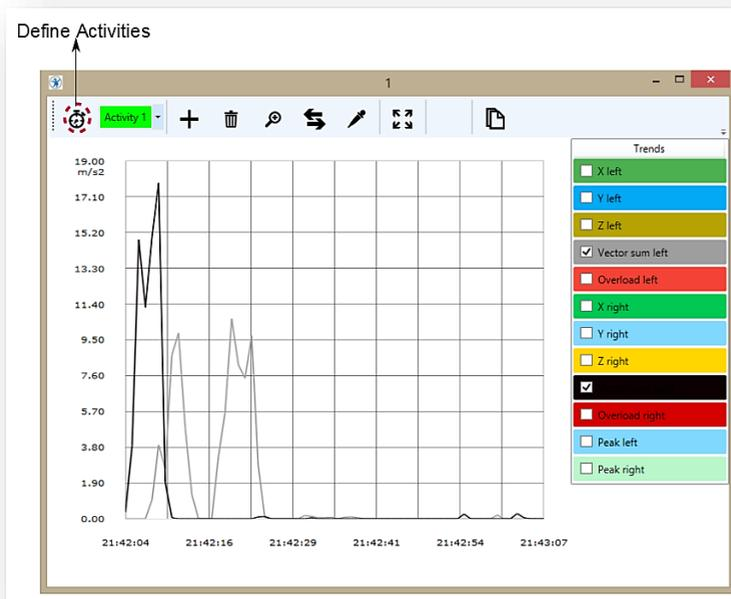

Figure29: Graph window- Define activities
2. It is possible to rename, add, and choose different colors for activities (please see figure 29&30).